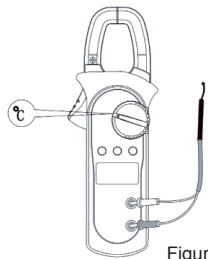

Figure 10
8. Temperature measurement (°C) (See Figure 10)